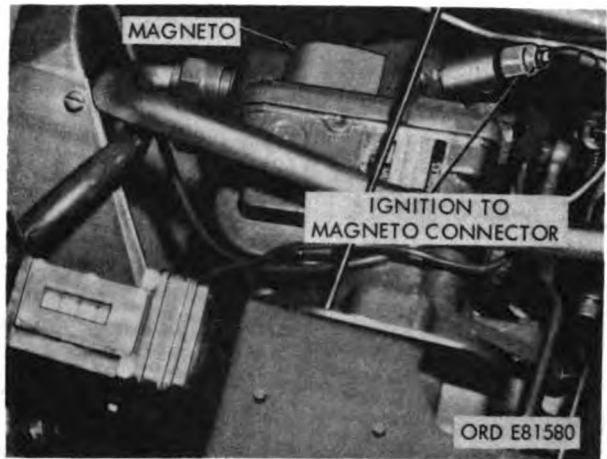
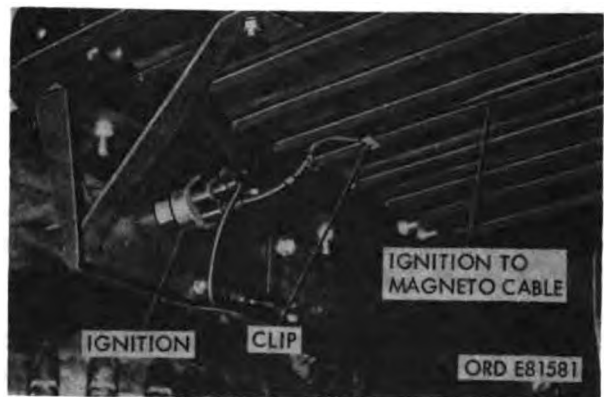

Figure 2-36. Ignition cable-to-magneto connector.
Figure 2-37. Location of ignition switch and cable.
*a. Ignition Switch-to-Magneto Cable—Removal.* Pull connector on front end of cable out of upper socket "D" of ignition switch rear (fig. 2-34). Pull connector on rear end of cable out of socket on magneto at rear of vehicle on engine (fig. 2-36). Remove four clips securing cable to underside of platform (fig. 2-37) and remove cable.
*b. Ignition Switch-to-Ground Cable—Removal.* Pull connector on end of cable out of socket "C" on ignition switch (fig. 2-34). Remove nut and lockwasher and one clip holding cable to front bed support crossmember (fig. 2-37) and remove cable.